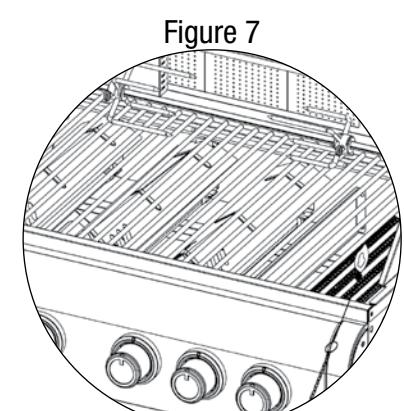

Figure 7
8. If igniter does not light burner, use a lit match secured with the lighting rod provided to light burner manually. Position the lit match near side of the burner (Figure 7).